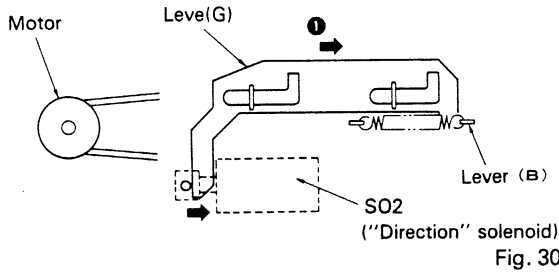

Fig. 30
1. When the "direction" switch is depressed, SO2 (the "direction" solenoid) is activated, pulling lever (G) in the direction indicated by arrow ① in Figure 30. Lever (G) in turn pushes against Arm (G).